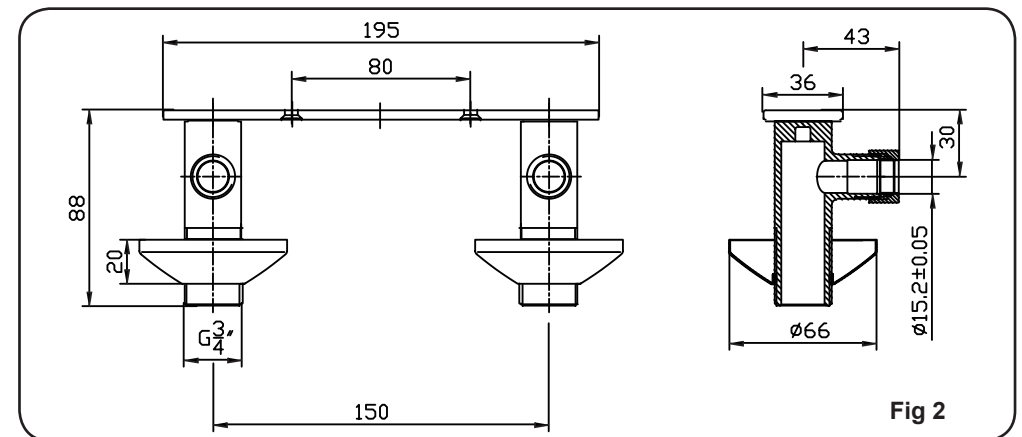

Fig 2
4. Prepare the recess in the wall for the Elbow with Mounting Plate(6) and pipework. See Fig 2. (See dimension drawing for depth of cavity).